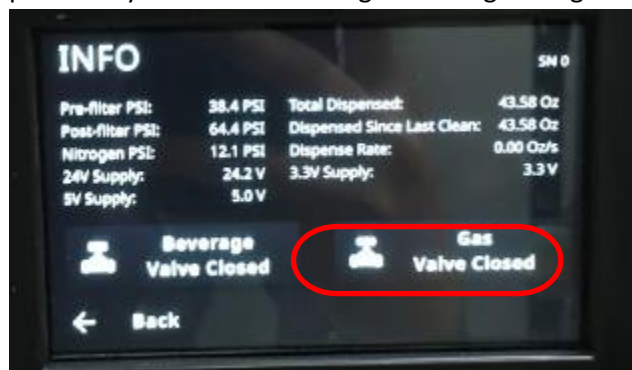

Figure 31: Manual Control Screen with Gas Valve Closed circled.
- g. Select GAS VALVE CLOSED on touchscreen. This will change the selection to GAS VALVE OPEN which indicates that the valve is now open. Verify that there is Nitrogen flowing through the Faucet. See **Figure 31**.